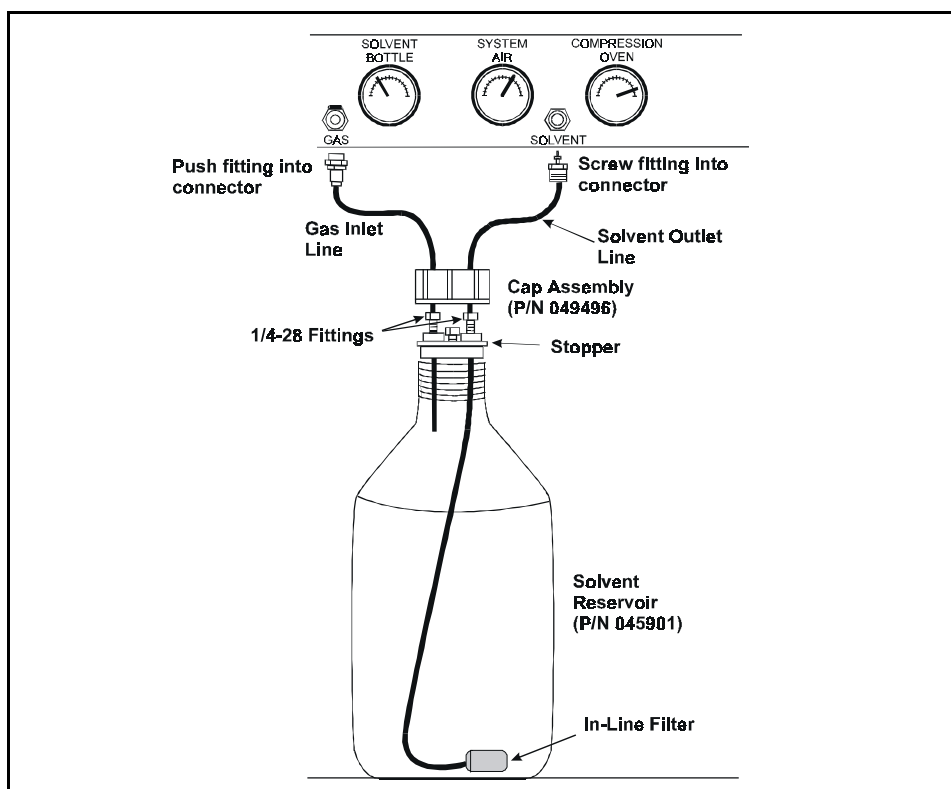

Figure B-6. Solvent Reservoir Assembly
2. Insert the outlet line extending from the underside of the reservoir cap assembly (P/N 049496) into the reservoir (see Figure B-6). Make sure that the in-line filter rests on the bottom of the reservoir; this prevents air from being drawn through the line. If necessary, gently pull on the outlet line to bring more line into the reservoir.
4. Set the reservoir in the solvent reservoir compartment. Screw the fitting on the solvent outlet line into the connector labeled **SOLVENT** at the top of the reservoir compartment (see Figure B-6).